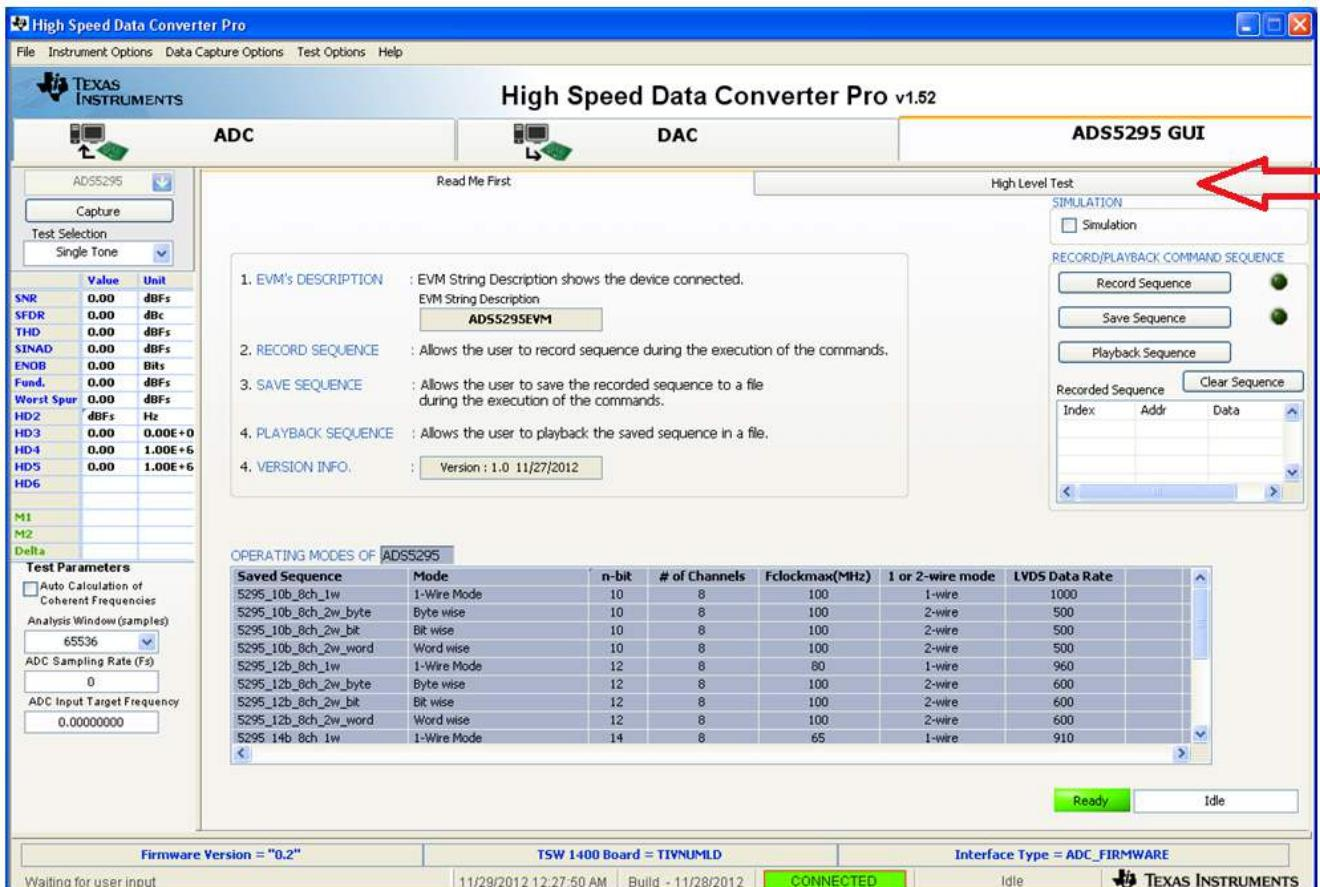

**Figure 6. ADS5295 GUI**
- A new tab labeled **ADS5295 GUI** appears in the *High Speed Data Converter Pro GUI* as shown in Figure 6. This tab allows control of the ADS5295 device.